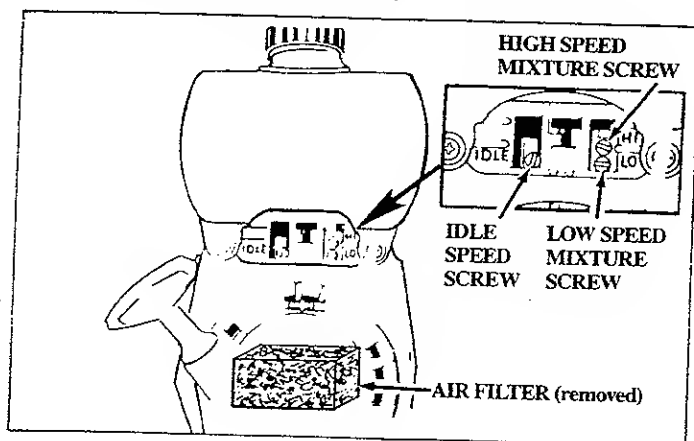

Figure 23
- b. Adjust Idle Speed Screw (Figure 23) until the engine continues to run without stalling and without the trimmer head moving.
- 2.) If the engine does not accelerate smoothly, turn the Low Speed Mixture Screw (Figure 23) counterclockwise  a small amount (no more than the width of the slot in the adjusting screw).
- Turn the Low Speed Mixture Screw (Figure 23) slowly clockwise ➡ until the speed starts to drop. Note this position.
c. Turn High Speed Mixture Screw (Figure 23) very slowly clockwise ➡ until engine speed is reduced.
a. Turn the Low Speed Mixture Screw and the High Speed Mixture Screw (Figure 23) clockwise ➡ just until they stop. Do not turn the screws until they are tight as damage to the needle seats can occur.